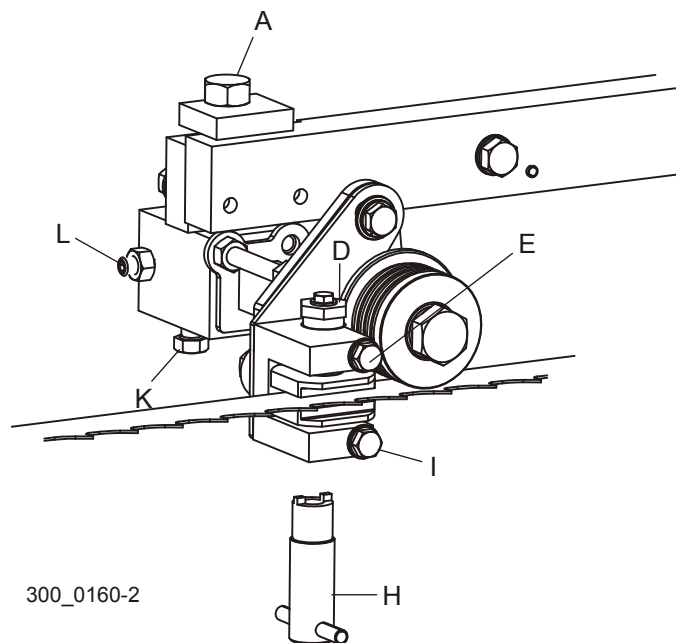

FIG. 3-23
See Figure 3-23. Standard Roller/Block Guides: Move the guide assembly forward until the roller flange is 1/16"-1/8" from the back edge of the blade and tighten clamp bolts (L) and (K). Turn blade guide assembly bolt (A) counterclockwise to lower the guide roller until it deflects the blade down 1/4". Turn top guide block bolt (D) clockwise to move top block down to **.008" - .010" from top of blade (use provided shim to set distance)**. Tighten clamp bolt (E). Use tool (H) to turn lower block adjustment screw clockwise to raise bottom block to **.008" - .010" from bottom of blade**. Tighten clamp bolt (I). Repeat for other blade guide assembly.